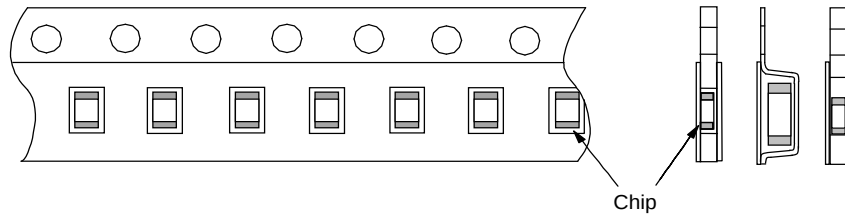

Fig.2 Dimensions of Reel
| 18                 | Board Flex                                                                            | Appearance                                                                                                                                                                                                                                                                                                 | No marking defects   |                                                                                                                                                                                                                                                                                                                                                                                                                                                                          | <p>Solder the capacitor on the test jig (glass epoxy board) shown in Fig1 using a eutectic solder. Then apply a force in the direction shown in Fig 2 for <math>5 \pm 1</math>sec. The soldering should be done by the reflow method and should be conducted with care so that the soldering is uniform and free of defects such as heat shock.</p> <table><tr><th>Type</th><th>a</th><th>b</th><th>c</th></tr><tr><td>GCM03</td><td>0.3</td><td>0.9</td><td>0.3</td></tr><tr><td>GCM15</td><td>0.5</td><td>1.5</td><td>0.6</td></tr><tr><td>GCM18</td><td>0.6</td><td>2.2</td><td>0.9</td></tr><tr><td>GCM21</td><td>0.8</td><td>3.0</td><td>1.3</td></tr><tr><td>GCM31</td><td>2.0</td><td>4.4</td><td>1.7</td></tr><tr><td>GCM32</td><td>2.0</td><td>4.4</td><td>2.6</td></tr></table> <p style="text-align: right;">(in mm)</p>  <p style="text-align: center;">Fig. 1</p> <p style="text-align: center;">t : 1.6mm(GCM03/15: 0.8mm)</p>  <p style="text-align: center;">Fig. 2</p> | Type | a | b | c | GCM03 | 0.3 | 0.9 | 0.3 | GCM15 | 0.5 | 1.5 | 0.6 | GCM18 | 0.6 | 2.2 | 0.9 | GCM21 | 0.8 | 3.0 | 1.3  | GCM31 | 2.0 | 4.4 | 1.7 | GCM32 | 2.0 | 4.4 | 2.6 |
1.11 Reel is made by resin and appeaser and dimension is shown in Fig 2. There are possibly to change the material and dimension due to some impairment.